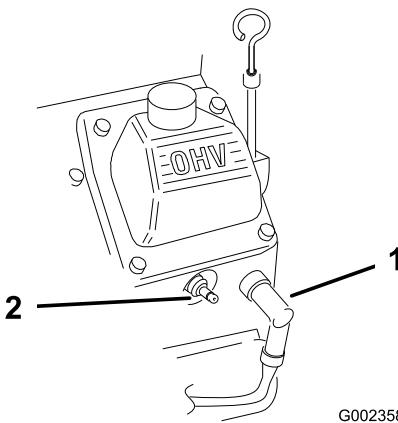

Figure 42
3. Disconnect the wires from the spark plugs (Figure 42).